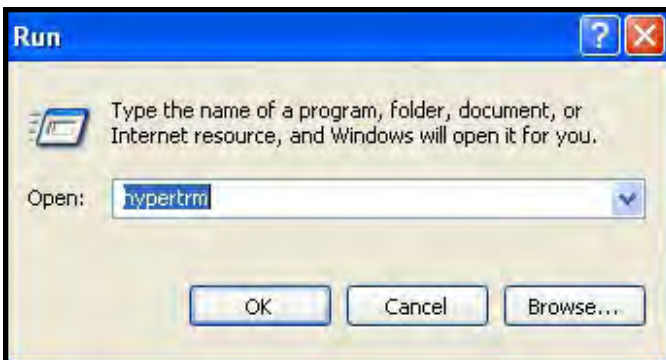

Figure 99. Typing "hypertrm" in Window's Run terminal
- VI. Type in "hypertrm" in the "Run" window then click the "OK" button (see Figure 99).